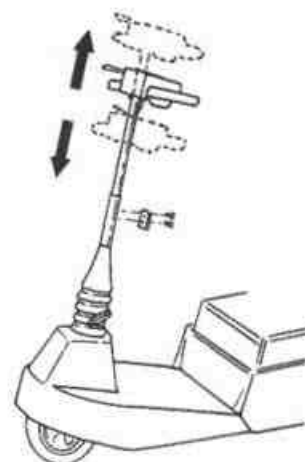

Figure 1B
**Telescopic Oval Handle (Optional):** The Amigo telescopic handle can be adjusted from 19 inches (48.3 cm) to 23 inches (58.4 cm). It is factory set to 23 inches (58.4 cm). If adjustment is needed, please see your local Amigo dealer or call Amigo Mobility International, Inc. (Figure 1B).